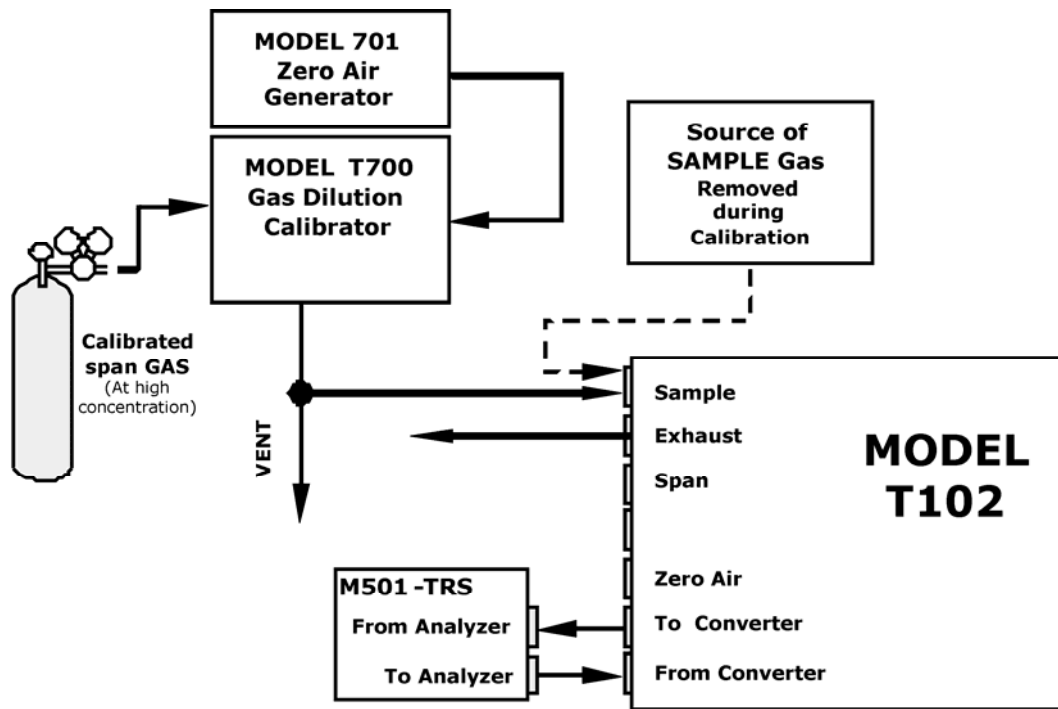
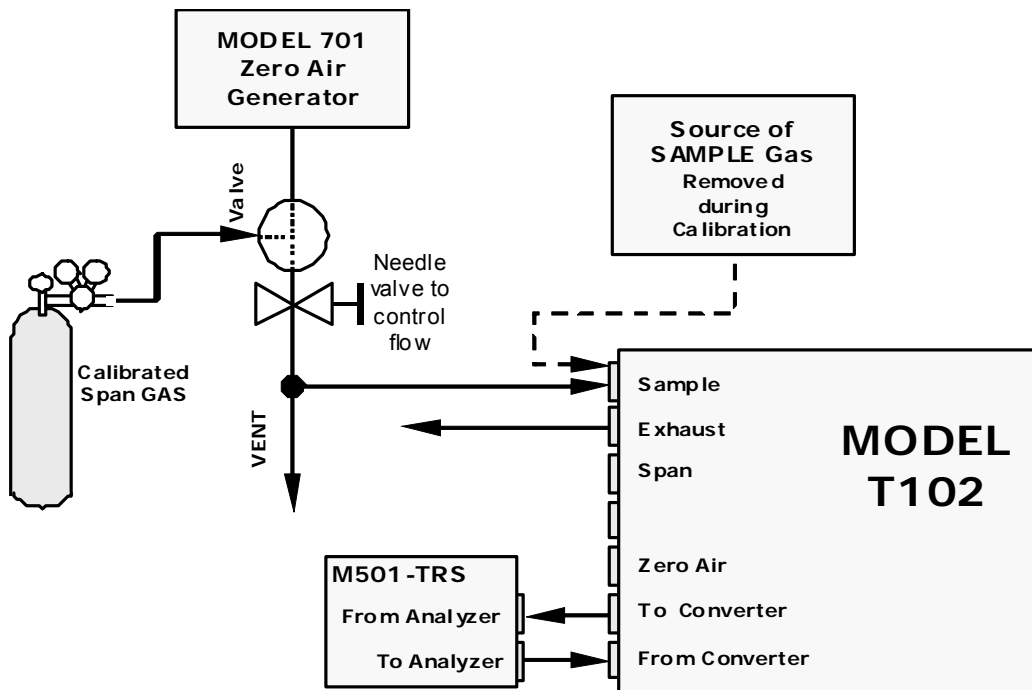

Figure 4-1. Pneumatic Connections—Basic Configuration—Using Gas Dilution Calibrator
Figure 4-2. Pneumatic Connections—Basic Configuration—Using Bottled Span Gas
Figure 4-1 and Figure 4-2 show the most common configurations for gas supply and exhaust lines to the Model T102 Analyzer. Figure 4-3, Figure 4-4, and Figure 4-5 show the connections for units with valve options installed.
- With external pneumatic connections as described in Figure 4-1 through Figure 4-5 of this addendum, and;